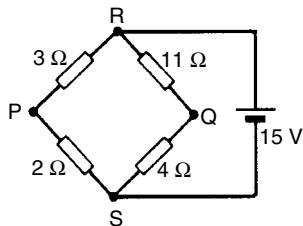

Figure 13.92
- 8 With reference to Fig. 13.92, which of the following statements is correct?